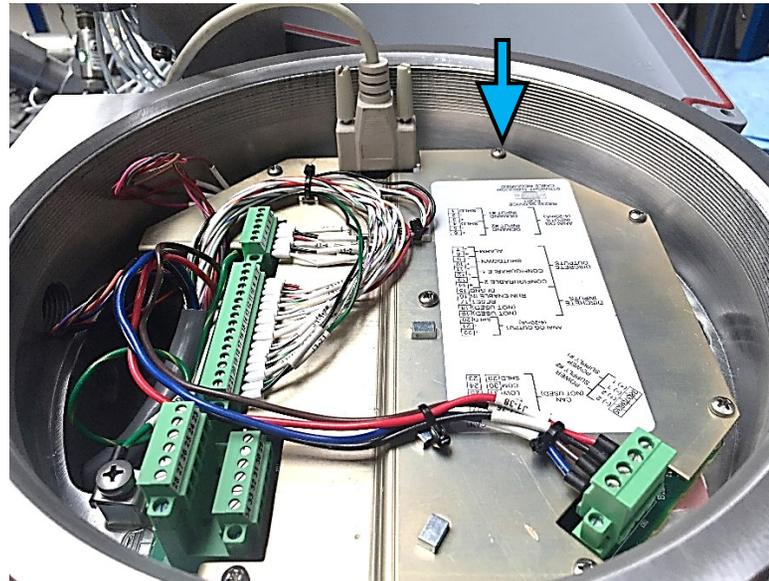

Figure 2-60. Connecting RS-232 Link
35. Connect the communication cable to the new VariStroke using the RS-232 communication cable (Figure 2-60).